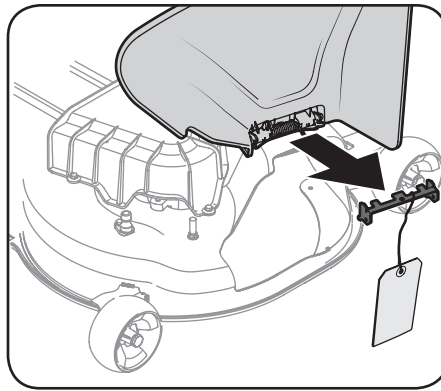

Figure 2-6
- Holding the chute deflector fully upward, remove the shipping brace. Lower the chute deflector and discard the shipping brace. See Figure 2-6.